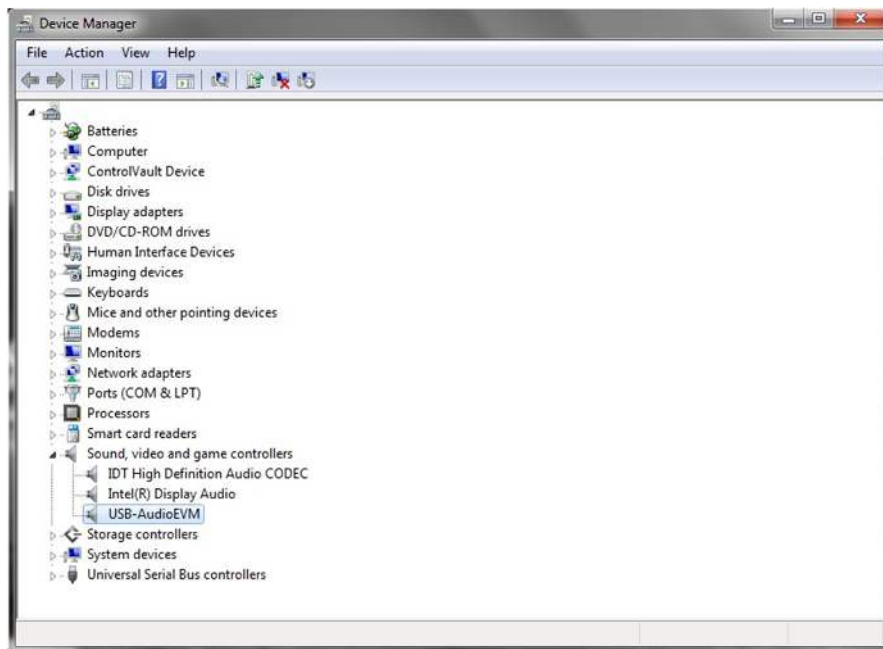

Figure 2. Device Manager
Upon power-on, the PPCMB uses USB audio input (default). The I2S signals, LRCLK, SCLK, SDIN, and MCLK, come from the TAS1020B. foobar2000 or similar non-processing media source can be used to stream audio. The TAS1020B enumerates as the following device on a Microsoft® Windows® operating system (OS): USB audio (USB-miniEVM), Human Interface Devices, and USB Composite Device, see Figure 2.